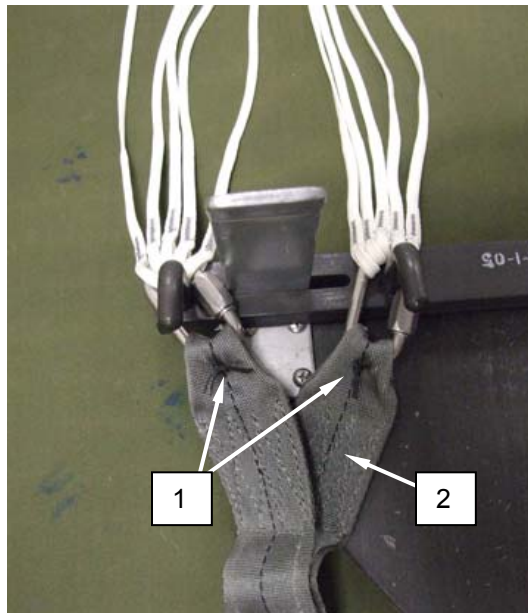

Figure 57. Remove Tacking.
1. Cut and remove tacking (Figure 57, Item 1) from risers (Figure 57, Item 2).